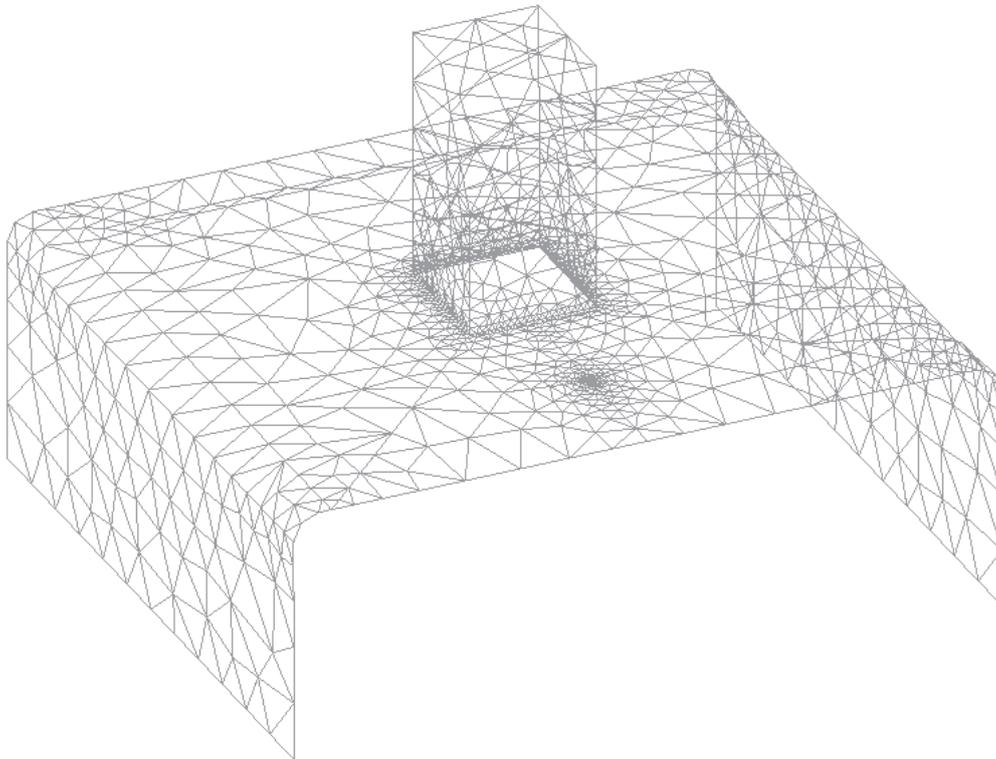

Figure 7. Mesh with a concentration of elements around lines.
- 6 This results in a high concentration of elements around the chosen lines, given that the selected element size (0.5) is much smaller than that of the rest of the elements in the model (see Figure 7).